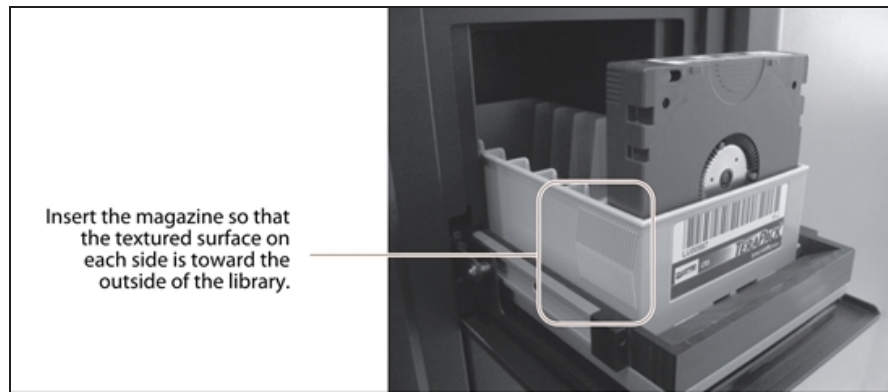

Figure 76 Insert a magazine into the TAP, making sure that it is correctly oriented.
3. Insert the magazine into the tray on the open TAP with the textured surface side toward the outside of the library, as shown in Figure 76 on page 144.
4. Click **Open TAP** to access the exported magazine. Exchange the magazine or any desired media in the TAP then push the TAP door closed and click **Close TAP**. If you exchange a magazine, make sure the new magazine is oriented correctly (see Figure 76 on page 144).